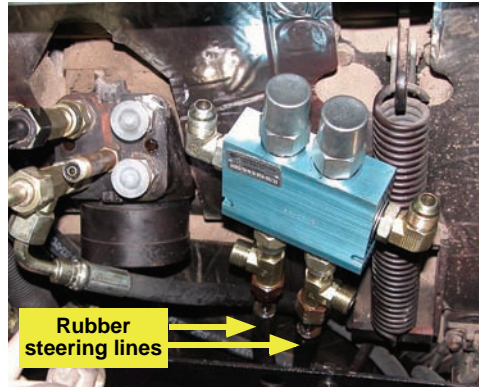

Figure 2b: Installed counterbalance valve
- b. Remove the steel portions of the left and right steering lines and attach the remaining rubber portions to the ends of the run-tees installed on the counterbalance valve (Figure 2b).